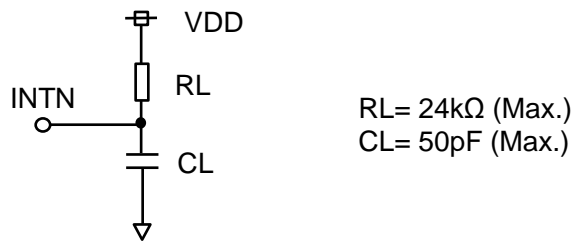

Figure 9.2. INTN Output Load Circuit
- * 8. When the load circuit of Figure 9.2 is connected